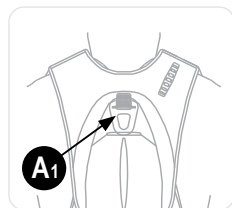

Figure 10
- Connect the karabiner of the energy absorbing lanyard to the rear fall arrest attachment point marked **A1** (Figure 10). **A1** is the only attachment point that will operate the Latchways PRD descender device rescue function.